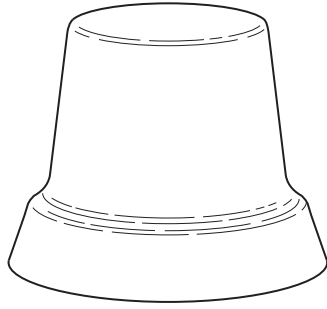

Fig. 14
- (g) Two plastic bowls are needed to fit into the holes in the base of the bird feeder. Fig. 14 shows the former that will be used to vacuum form the plastic bowls.